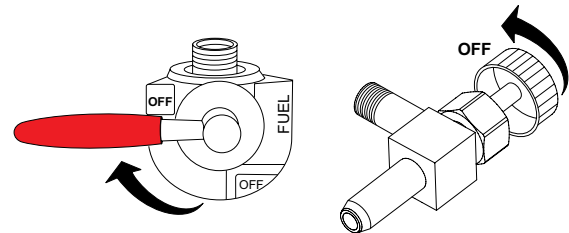

Figure 32. Fuel Tank Valve Lever (OFF)
1. Place the fuel tank ON/OFF valve lever (Figure 32) in the **OFF** position.